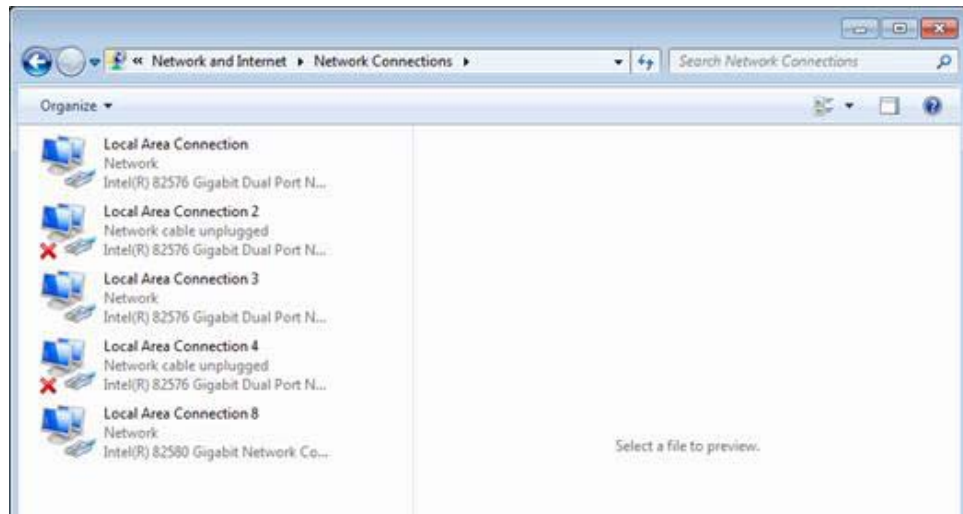

Figure 2 NICs shown in Device Manager
Windows Device Manager shows a total of four (5) individual Network Interface Cards (NICs) listed under the M9536A (see Figure 2). The Intel 82576 NICs are located in the M9536A, and the Intel 82580 NIC is located in the M9521A ASM.